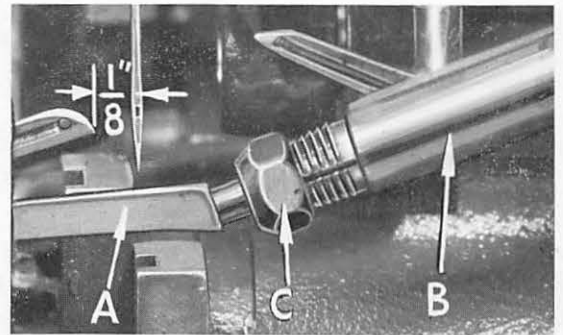

Fig. 5
At this point, insert lower looper (A, Fig. 5) into bar (B). With lower looper at left end of its stroke, set looper point  $1/8$  inch from center of needle (Fig. 5), using looper gauge No. 21225-1/8. Do not have lower looper deflecting needle. Tighten nut (C).